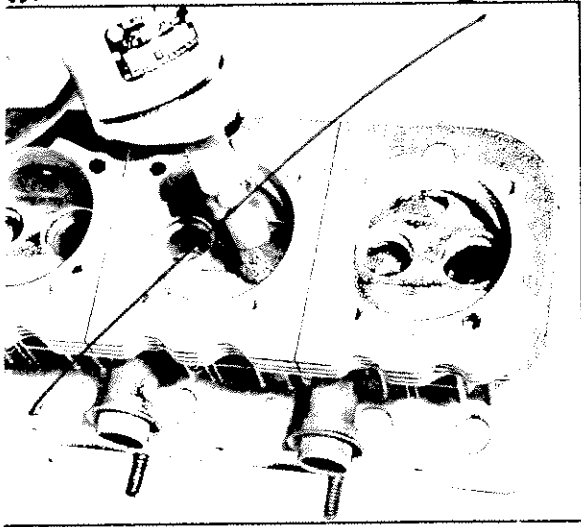

Fig. 80—Removing Carbon from Combustion Chamber
- Clean carbon from combustion chambers and ports using Tool J-8358 (fig. 80).